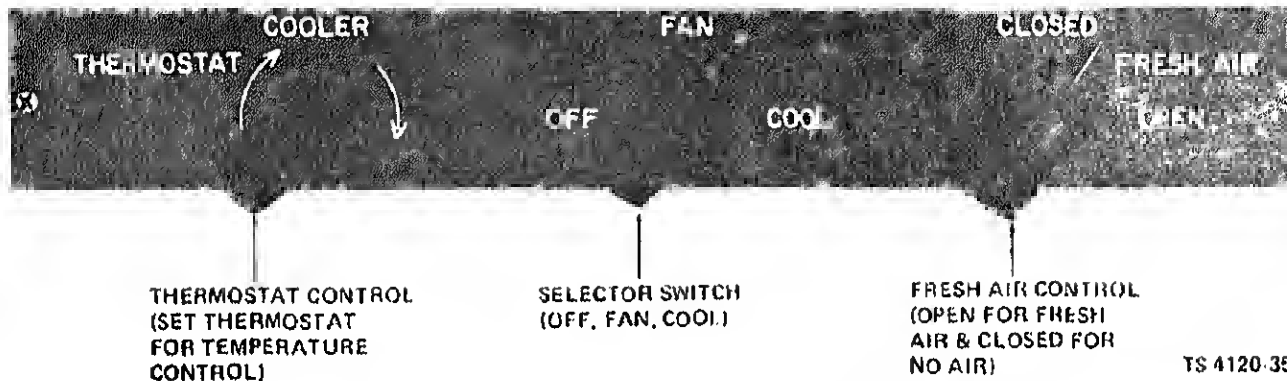

Figure 2-1. Controls and Instruments.
proper operation of the air conditioner. The location and the function of the controls and instruments are illustrated in figure 2-1.
(1) Set THERMOSTAT (fig. 2-1) to temperature.